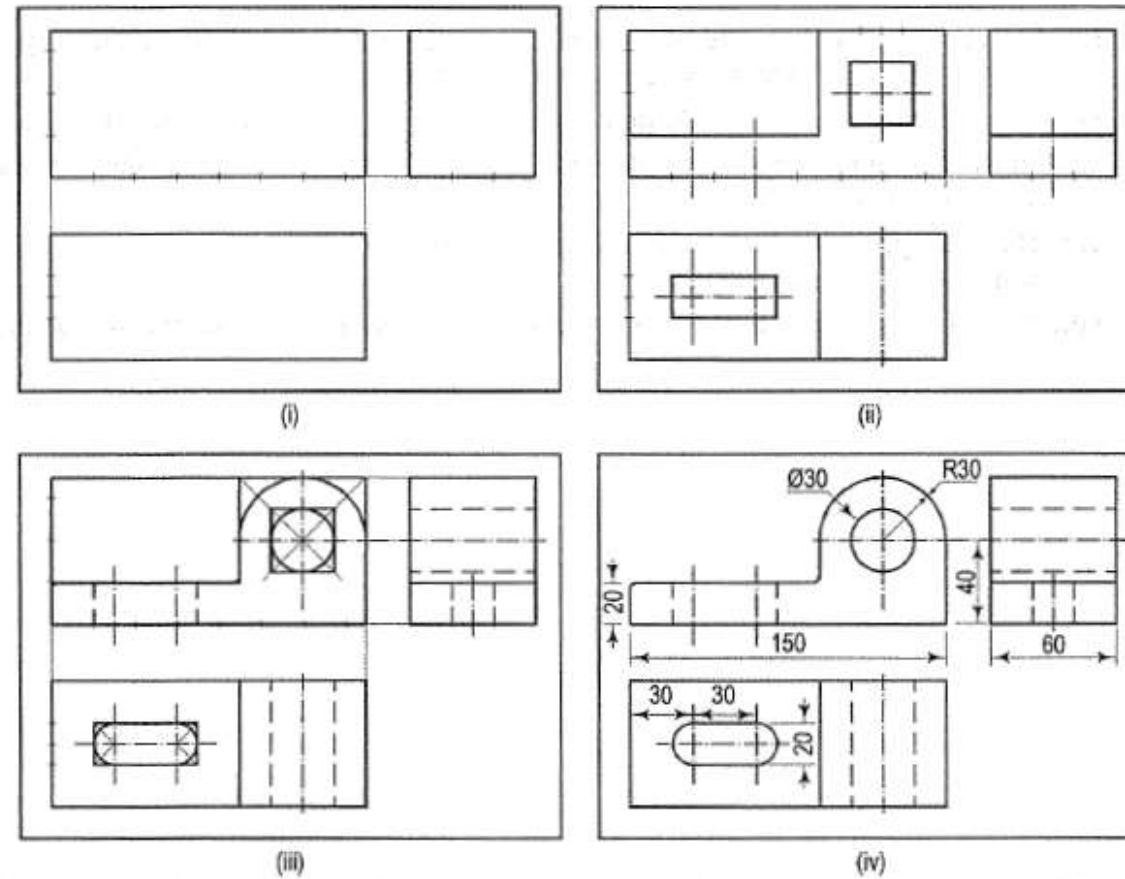

FIGURE 7
- (i) Determine the over-all dimensions of the views and sketch rectangles for the same in good proportions and correct projection, keeping sufficient space between them and from the border lines [Fig. 7(i)].
- (ii) Insert centre lines for arcs and circles, and block-in the main shapes [Fig. 7 (ii)].
- (iii) Sketch arcs and circles, and build up the details [Fig. 7 (iii)].
- (iv) Erase all construction lines. Dim all the lines and then make them bold and firm [Fig. 7 (iv)] starting with the curves. Keep the centre lines fainter. Insert all dimensions. Print the title.